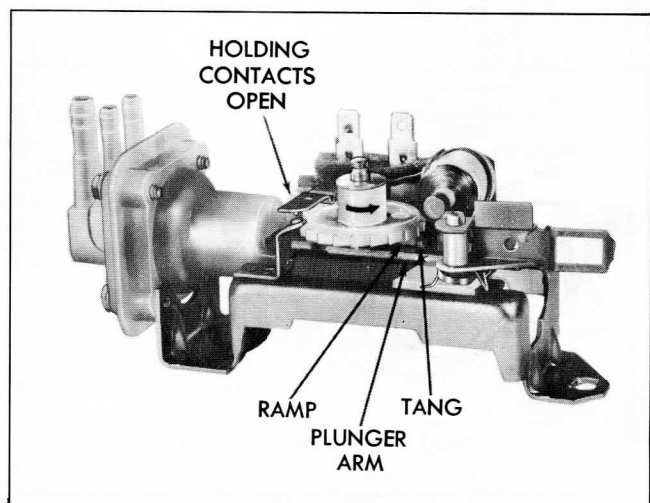
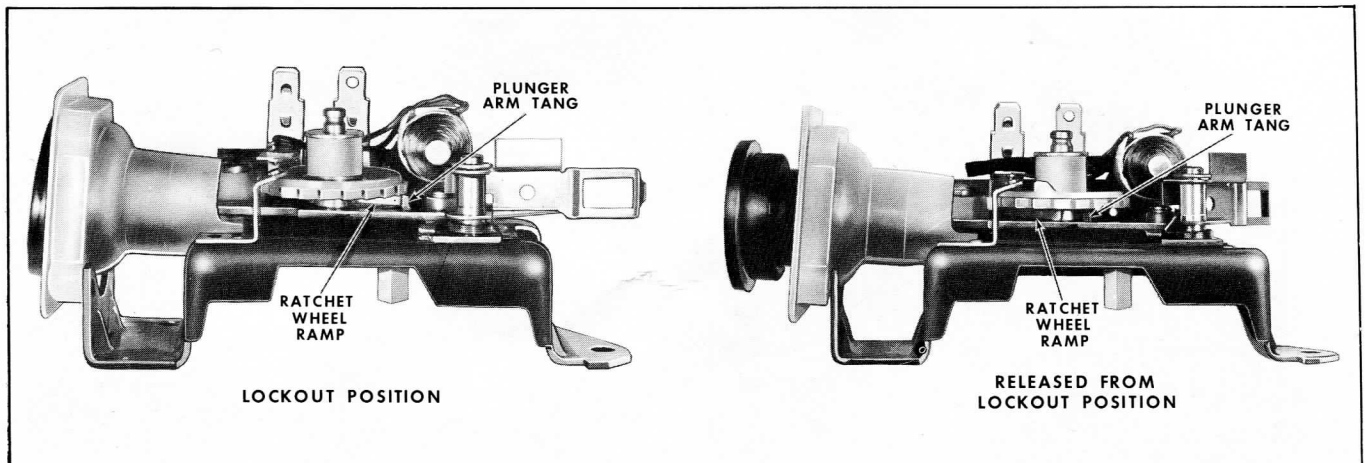
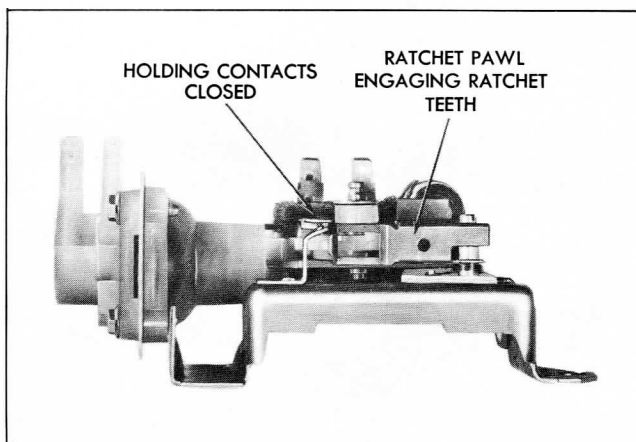
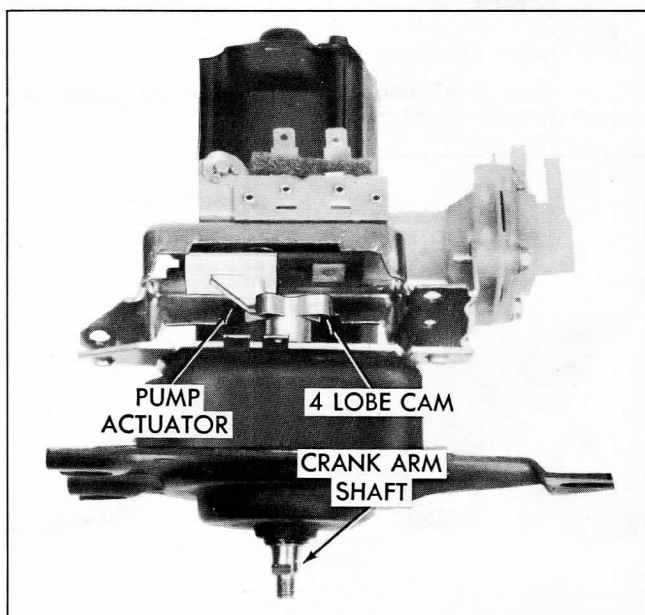

Fig. 12-51 Washer Pump—Tempest and Firebird
Fig. 12-52 Pump in "Lock-Out" Position—Tempest and Firebird
Fig. 12-53 Pump Contacts and Ratchet Pawl—Tempest and Firebird
Fig. 12-56 Washer Pump Drive System—Tempest and Firebird
When the washer pump is mounted on the wiper correctly, a cam follower on the lower side of the pump engages with a 4-lobe cam (Fig. 12-51). The cam follower is part of a spring-loaded plate and ratchet pawl assembly. Thus, with wiper running, the cam follower actuates the plate and ratchet pawl assembly back and forth in a horizontal plane. Another pin, attached to upper side of plate and ratchet pawl assembly, extends through a slot in the bellows plunger arm. This pin moves freely back and forth in slot while the pumping mechanism is in "lock-out" position and no pumping action occurs.
The pump is in lock-out position when relay holding contacts are open and a tang on plunger arm rests against widest part of eccentric ramp located on lower surface of ratchet wheel (Fig. 12-51). The tang holds the bellows plunger arm in a retracted position (bellows spring compressed) allowing the plunger arm actuator pin on plate and ratchet pawl assembly (Fig. 12-56) to move freely back and forth in plunger arm slot and thus no pumping action occurs.
When the ratchet wheel has been rotated one tooth, two simultaneous functions occur: (1) the eccentric ramp on ratchet wheel is moved away from plunger arm tang, releasing pumping mechanism from its lock-out position, and (2) a set of holding contacts close, maintaining the coil circuit to ground. The contacts will stay closed until ratchet wheel has been turned through 360° or 21 teeth at which time ratchet wheel ramp will again open contacts (Fig. 12-51).
lower surface of the ratchet wheel. The full "lock-out" position of pumping mechanism is reached when the tang is up on widest part of ramp (Fig. 12-51). The tang reaches the "lock-out" position at the same time relay coil holding contacts open (Fig. 12-52).
2. If relay and ratchet pawl perform correctly in step 1, manually actuate plate and ratchet pawl assembly to turn ratchet wheel one tooth. Observe if relay holding contacts close (Fig. 12-53) and pump plunger arm is released from its lock-out position. (Fig. 12-51 shows plunger arm in lock-out position.)
4. If pump performs correctly in step 3, continue to manually actuate plate and ratchet pawl assembly until ratchet wheel has been turned through 360° or 21 teeth. After ratchet wheel has been rotated 21 teeth, holding contacts should be opened by a hump on wheel and pump plunger arm should be in lock-out position (Fig. 12-51).